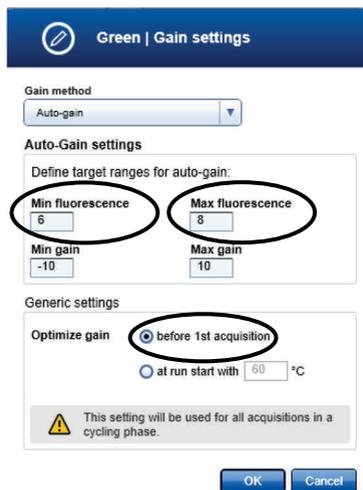

Figure 6. Confirm auto-gain settings on Q-rex.
19. Confirm that “Auto-gain” is selected (see Figure 6), and settings for the green channel preset in the template are the same as outlined in Table 6. “Optimize gain” should be selected before 1st acquisition. Confirm auto-gain settings also for the yellow, orange, red and crimson channels, according to Table 6.